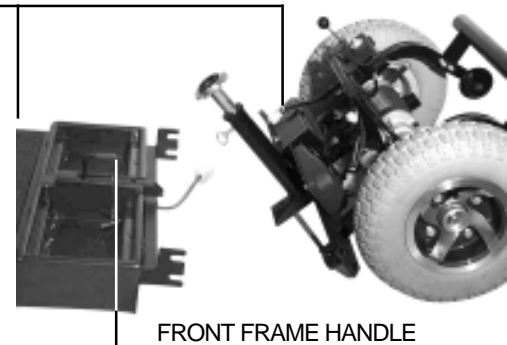

Figure 16. Front and Rear Sections
11. With one hand on the seat pedestal and one hand on the front frame handle, gently slide the front and rear sections apart. See figure 16.
2. Position the front and rear sections of your Boxster as shown in figure 16.